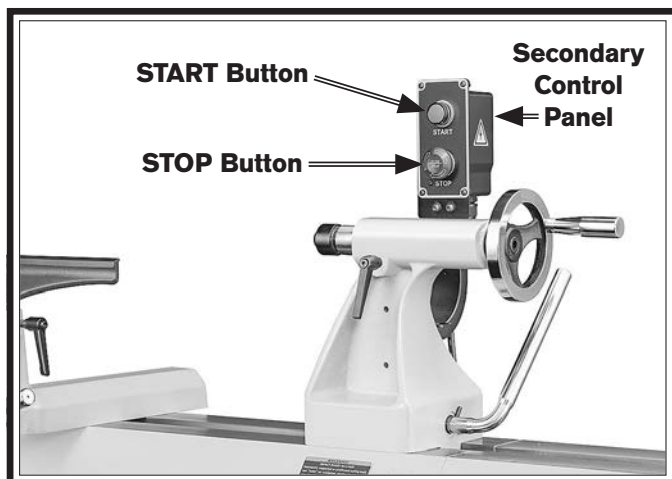

Figure 16. Location of secondary controls.
12. Turn spindle speed dial all the way counterclockwise, then press STOP button on secondary control panel (see Figure 16).